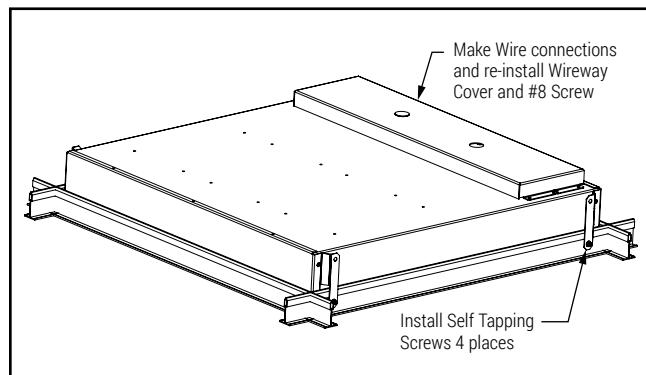

Figure 5.
8. Using the open knockout in Wire Way attach the supply line flex and Fix Wire way to Back plate with screw (Figure 5.)